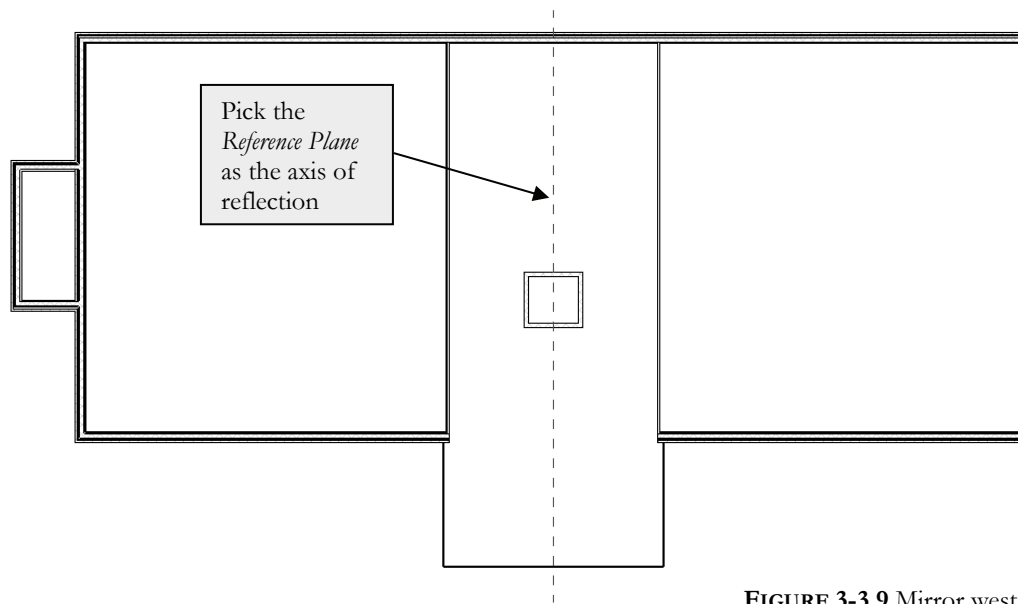

FIGURE 3-3.9 Mirror west stair
25. Draw a Reference Plane snapped to the vertical, centered on the South atrium wall (See Figure 3-3.9).
26. Erase the four walls of the East stair shaft; this will include the main east wall of the office building (Figure 3-3.9).
27. Select the six walls at the West stair (Figure 3-3.9).
28. Select the **Mirror - Draw Axis** tool (on the *Ribbon*) and then select the Reference Plane (Figure 3-3.9).